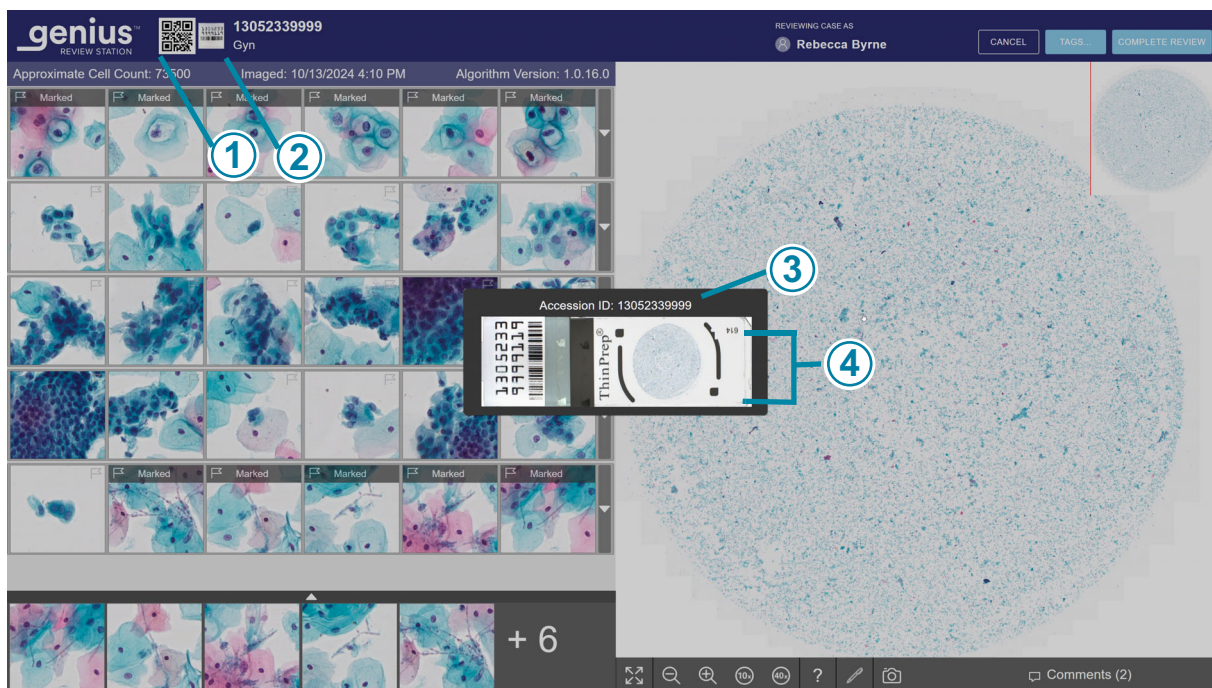

Figure 2-3-4 Macro image shows slide label area, example of a case with Genius Cervical AI
①	Accession ID and macro image of the slide label area The Review Station displays the Accession ID as text and as a QR code. To see the macro image of the slide, click on the macro image of the slide label area. Refer to Figure 2-3-4. To see a larger image of the QR code, click on the QR code. To scan the Accession ID with an optional barcode scanner, scan the macro image of the slide, the smaller QR code of the Accession ID, or the larger image of the QR code.
②	Above the gallery, the approximate cell count, date the slide was imaged, and algorithm version display. Refer to “Cell count, date and algorithm version” on page 3.12 for more details.
③	The gallery of 30 tiles: five rows of six tiles. For Gyn cases only. Refer to “Review the Gallery of Objects of Interest (OOIs), Gyn Case” on page 3.11 for more details.
Key to Figure 2-3-4